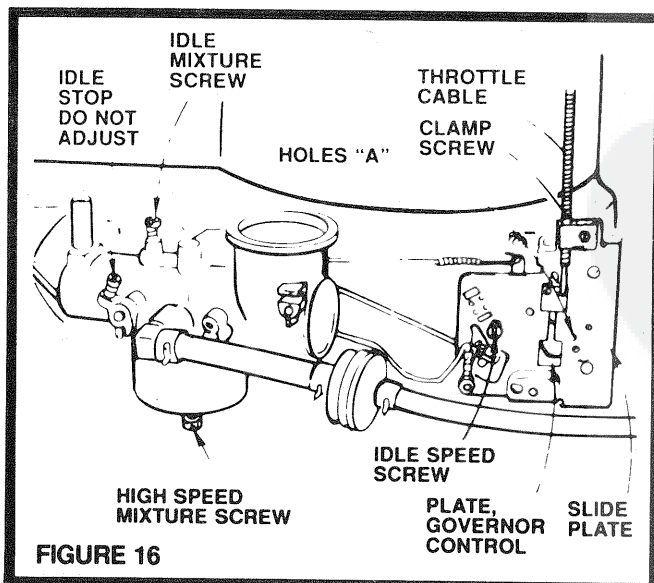

FIGURE 16
- Loosen Clamp Screw (Fig. 16). Adjust Throttle Cable until holes "A" are aligned in governor control plate and slide plate.
- With engine off turn high speed mixture screw clockwise (↻) closing finger tight ONLY, and turn counterclockwise (↺) 1-1/2 turns (Fig. 16). turn idle speed mixture screw clockwise (↻) closing finger tight ONLY, and turn counterclockwise (↺) 1 turn.